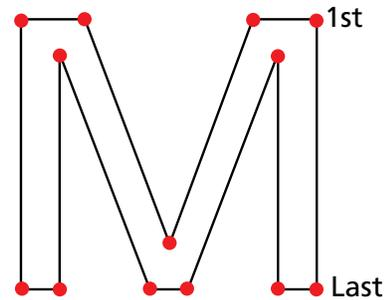

Figure 5-13
- We will begin the outline from the last Mk1 of the initial lock stitch sequence which you entered at the bottom right corner of the right leg of the letter **M** (see Figure 5-13).
- To generate running stitches from the bottom right corner to the top right corner, put a Mk1 at the top right corner (see Figure 5-13). Follow the same method to place these Mk1s as you did for the previous Mk1s.
- Now go left to the next corner and enter another Mk1 (see Figure 5-13).